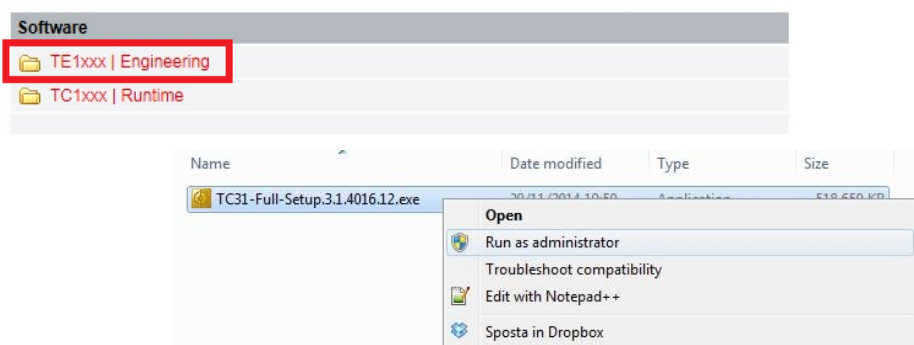

Figure 1: installation of TwinCAT 3.1
- TwinCAT 3.1 “Engineering” installation package has to be chosen, and the in installation should be performed by selecting “Run as administrator” (Figure 1).